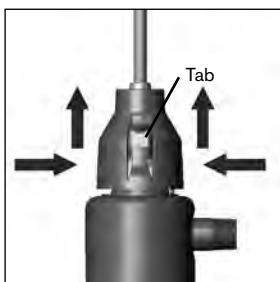

Figure 1
4. Squeeze the sides of the safety cap in the area opposite the tabs (do not squeeze tabs), and remove the cap (Figure 1).